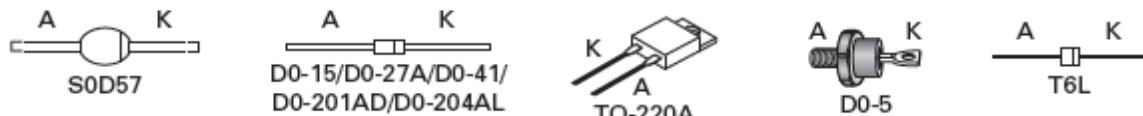

Figure-12 Diode case styles
- Figure-12 shows some of the many typical diode case styles. Many, but not all, diodes have the cathode lead (K) identified by a colored band.